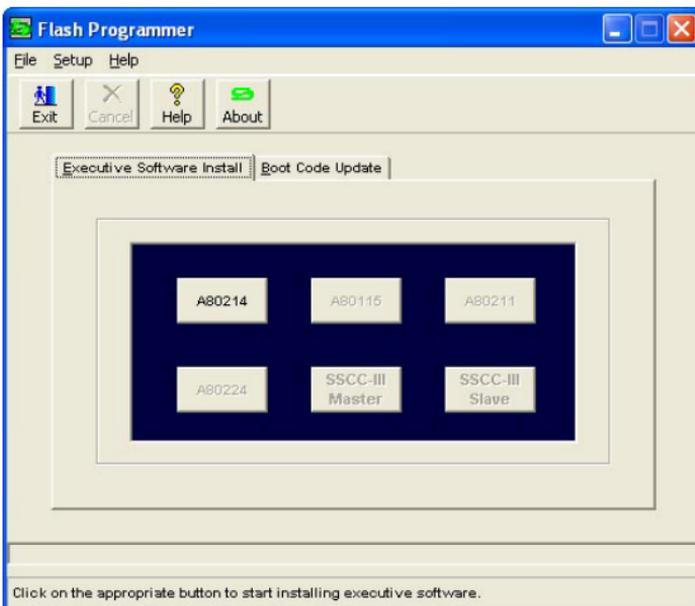

Figure 1:
4. The Flash Programmer Window Opens (See Figure 1)